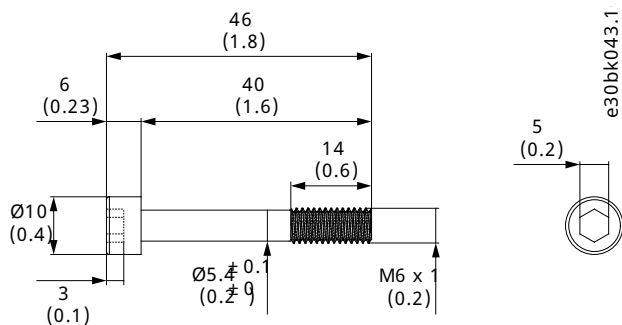

Figure 27: M6 Flange Screw Dimensions
2) The ISD 520 can be fixed from both sides of the flange. When using the thread on the flange, an M8 screw is required, otherwise an M6 flange screw must be used to fix the ISD 520 to the mounting plate (see Figure 27).